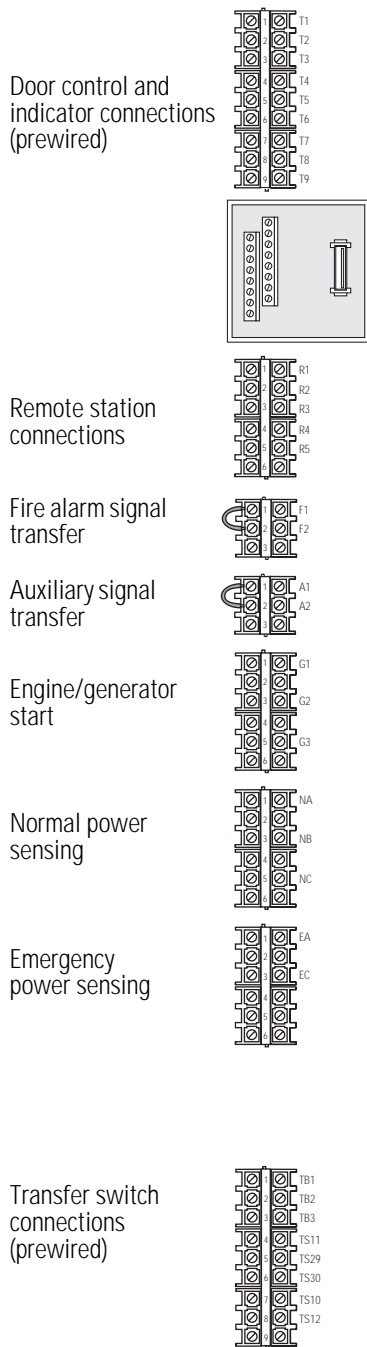

Figure 16: Control and Sensing wire terminal connections
4. Use a digital voltmeter (DVM) to test the feed voltage at the Normal power sensing terminal block (Figure 16 on page 16 for location). Phase A is on terminal 1, phase B on terminal 3 and phase C on terminal 5. Voltage must be within ±10 percent of the rated voltage for the ELTS.